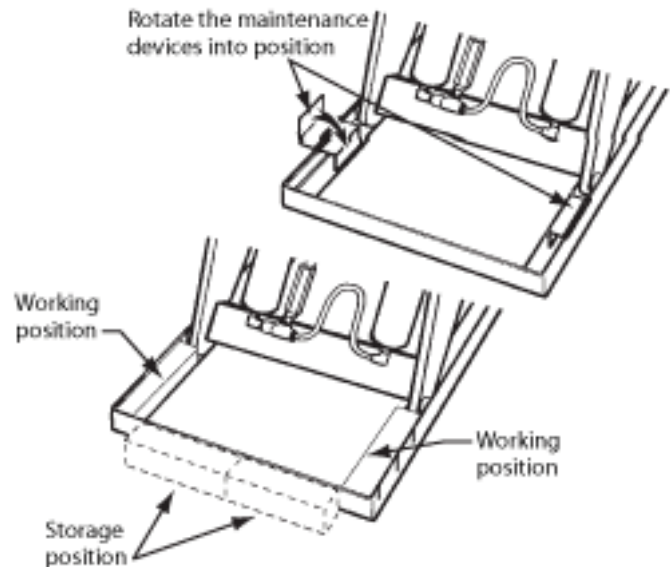

Fig. 1 – Safe Servicing of Lift
3. Remove the maintenance device(s) from its/their storage location and place it/them into the engaged position as shown in Figure 1.
12. **Raise and chock the lift**, as shown in Fig. 1.
When adjusting the flow control, always raise the lift table and insert the maintenance chocks, as shown in Fig. 1. Don't try to
- **Raise the lift table and chock the legs**, as shown in Fig. 1.
- Every time you want to change the adjustment again, raise the table again and insert the chocks as shown in Fig. 1.